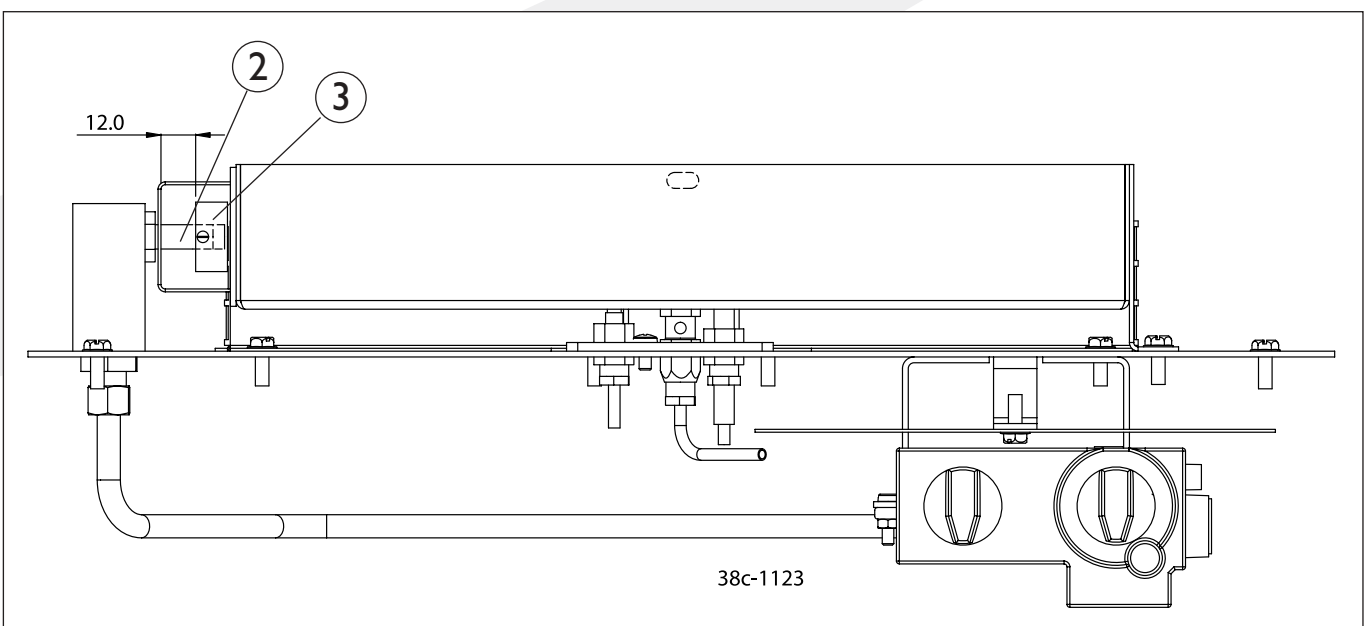

fig. 2
2. Main burner jet (fig 2)
4. Throttle ring (fig 2)